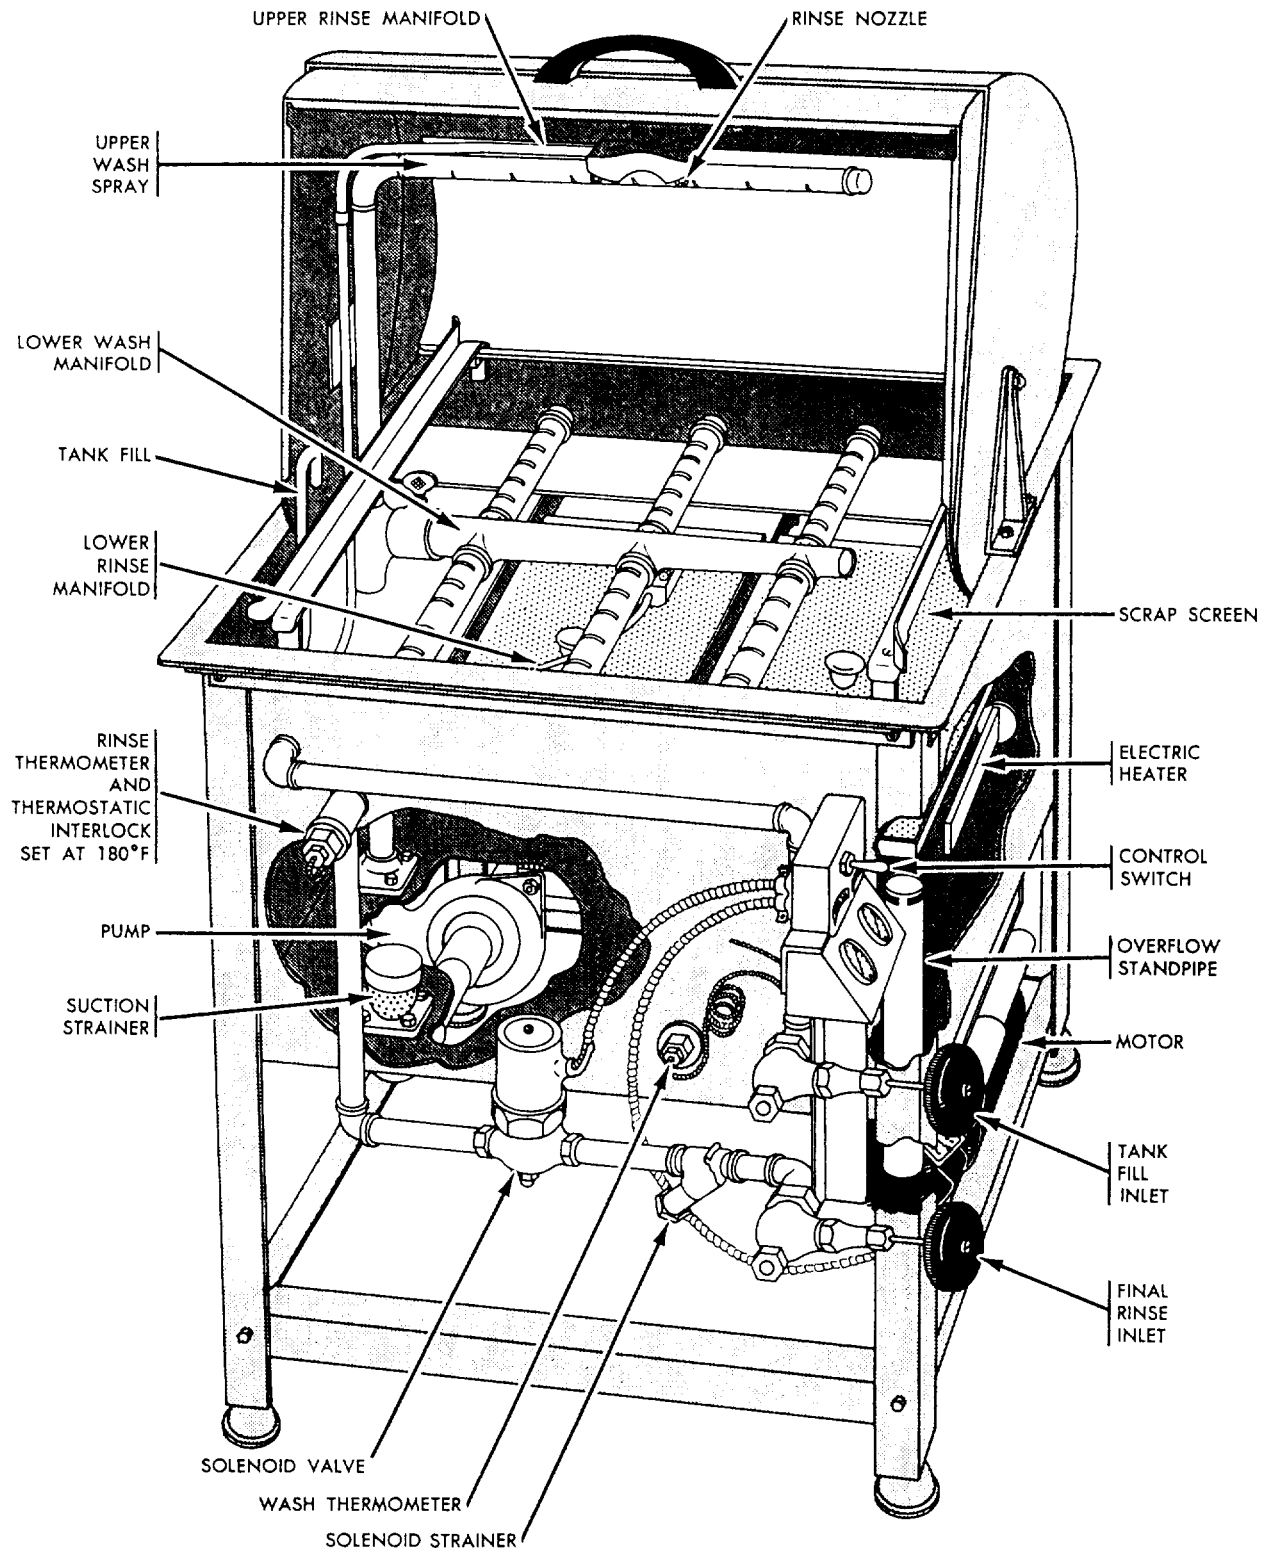

Figure 10-46.—Typical semiautomatic single-tank dishwashing machine.
**SINGLE TANK.**— Single-tank machines (fig. 10-46) are used on small ships, where larger models are not feasible.